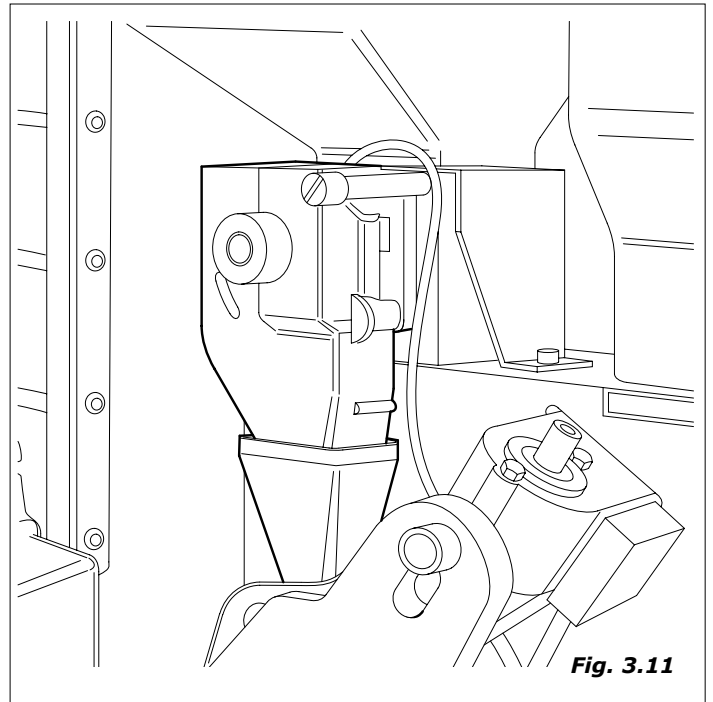

Fig. 3.11
- the grinder is activated until it reaches the dose of ground coffee set by the doser (Fig.3.11)